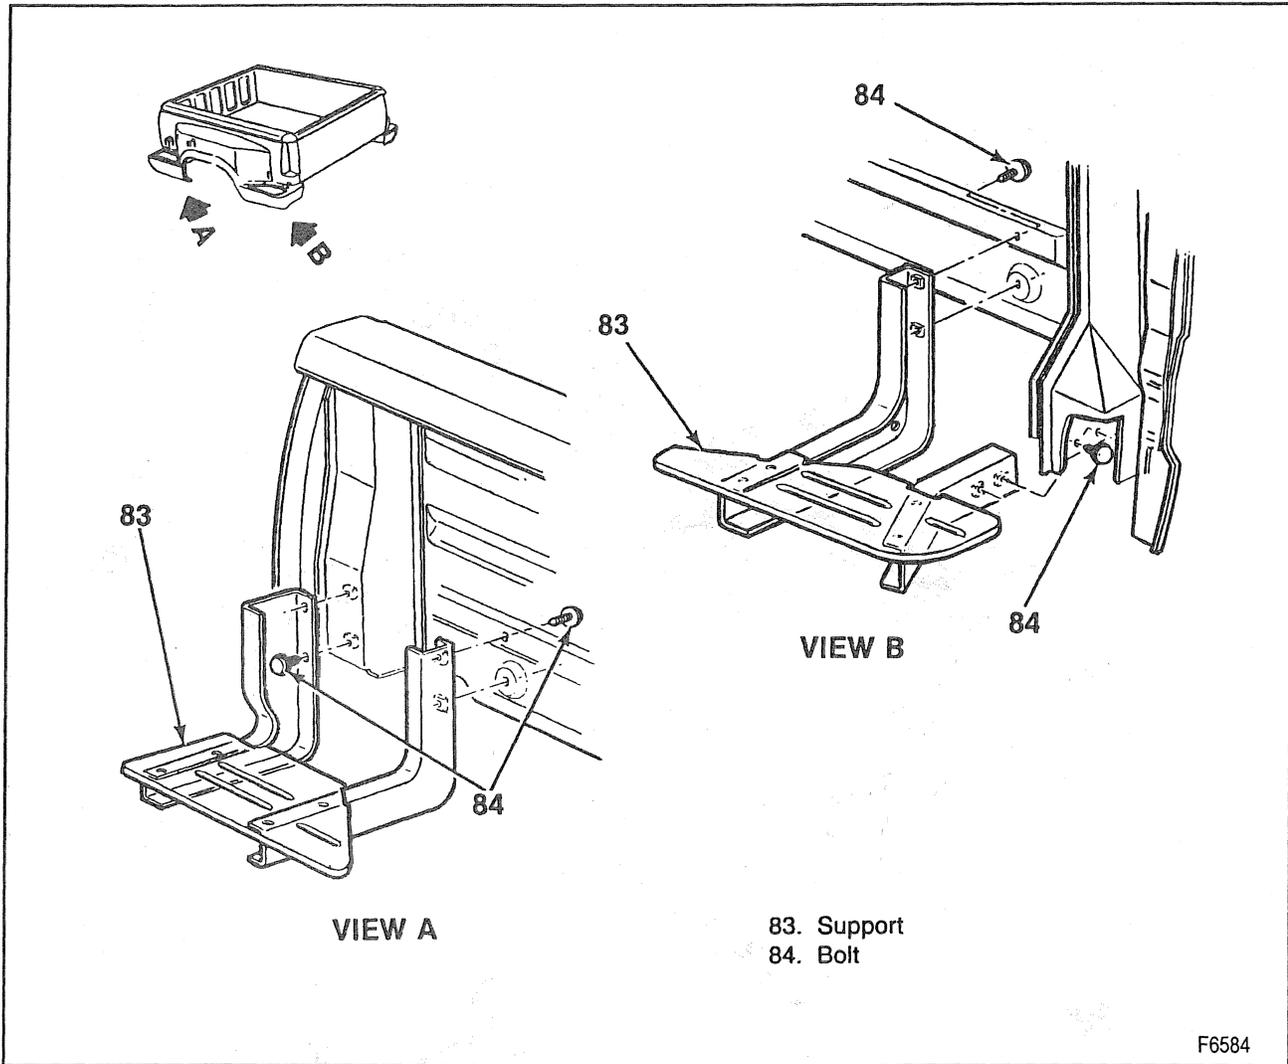

Figure 15—Fender Supports
**Install or Connect (Figure 15)**